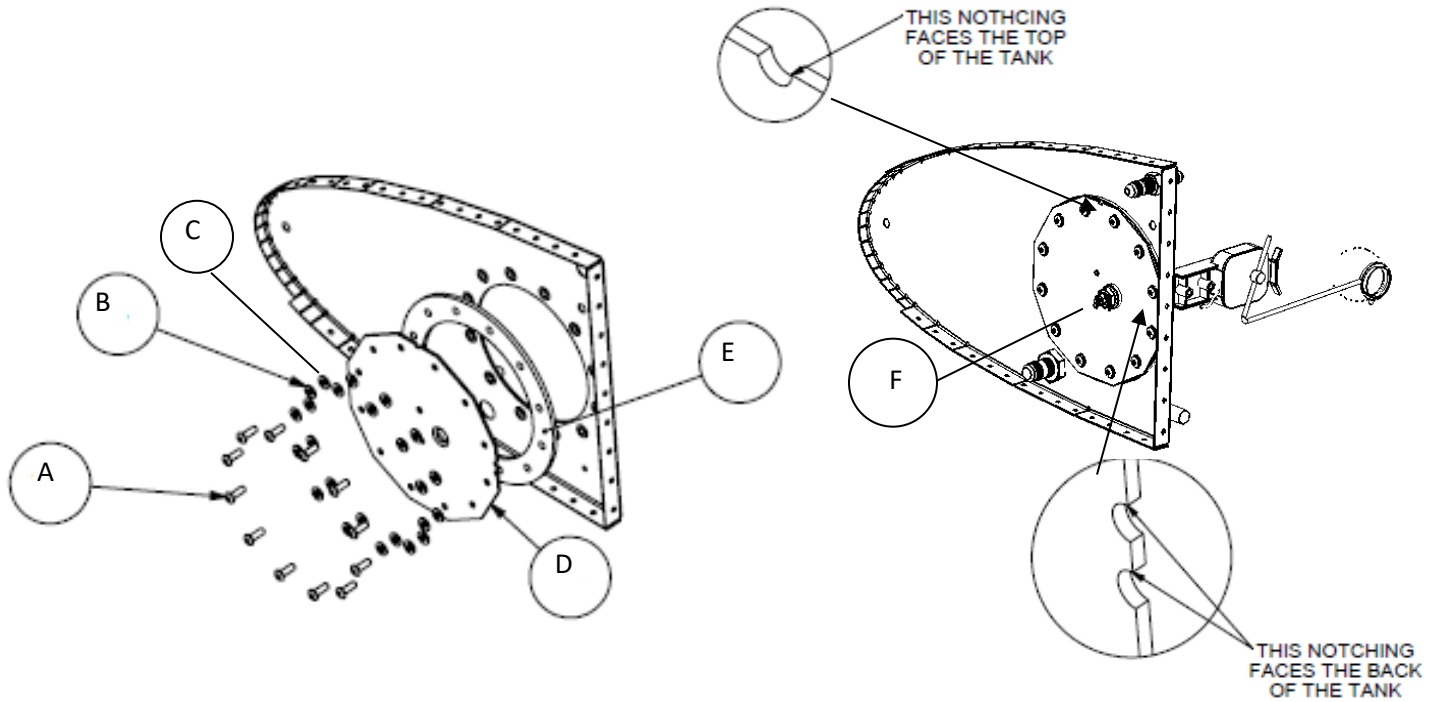

Figure 57: Fuel sender installation into fuel tank.
- Observe correct plate orientation and placement of washers (refer to Figure 57). The plate is fitted with the edge with the single notch facing the top of the wing and the edge with two notches facing the rear of the wing.